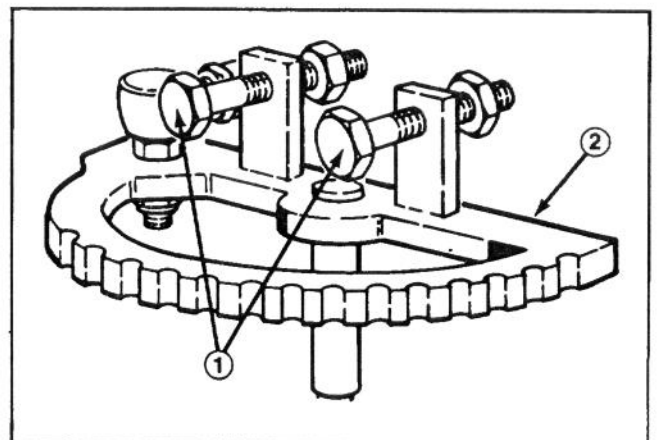

Figure 43
## ADJUSTING STEERING STOPS (Fig. 43)
1. Loosen locknuts securing stop screws to tabs on steering sector (Fig. 43).